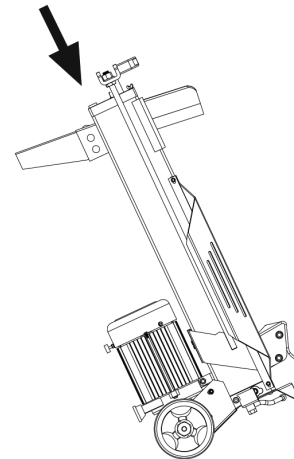

FIGURE 11
- 4) Once the oil is drained, place the log splitter in a vertical position as shown in Fig.11 and refill with new hydraulic oil- Grade ISO 32 (3.2L).